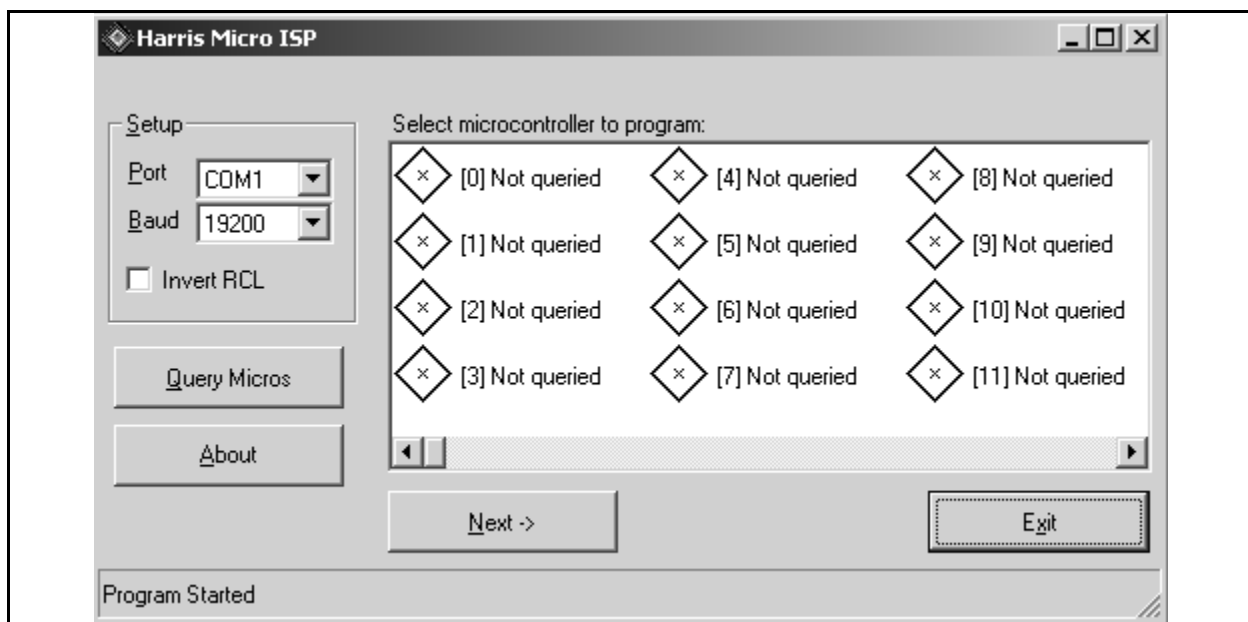

Figure 1-2 ISP Opening Screen
- STEP 3** Run the “Harris ISP.exe” program. The window shown in Figure 1-2 should open.